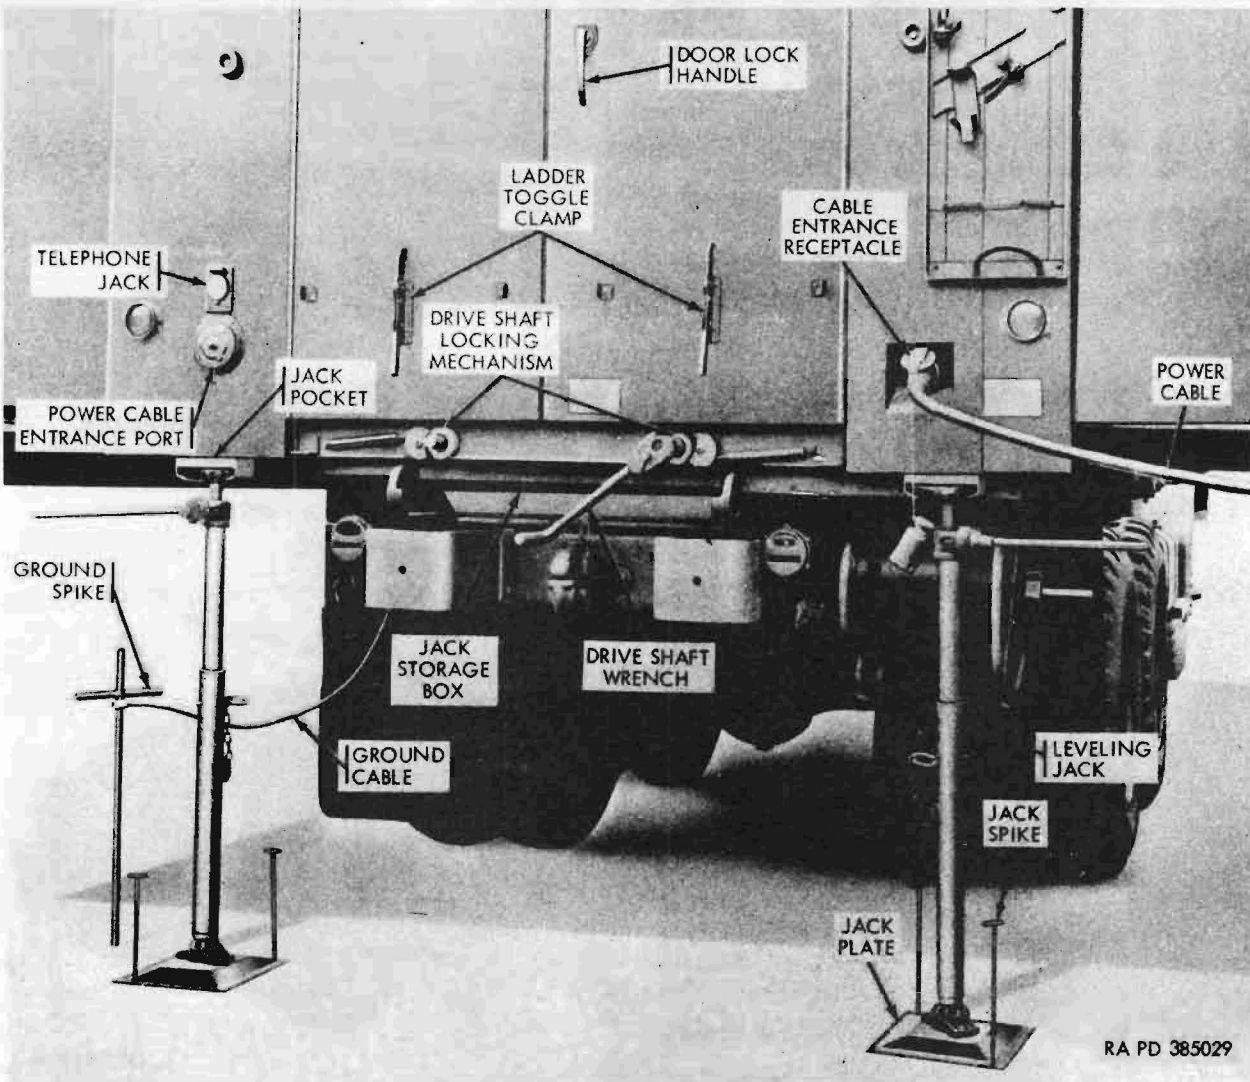

Figure 74. Van in operating position
- (1) Ladder toggle clamps (fig. 74). The ladder toggle clamps, located on the rear doors of the van, are used to hold the ladders in the stowed position when suspended from the ladder racks located toward the tops of the doors.